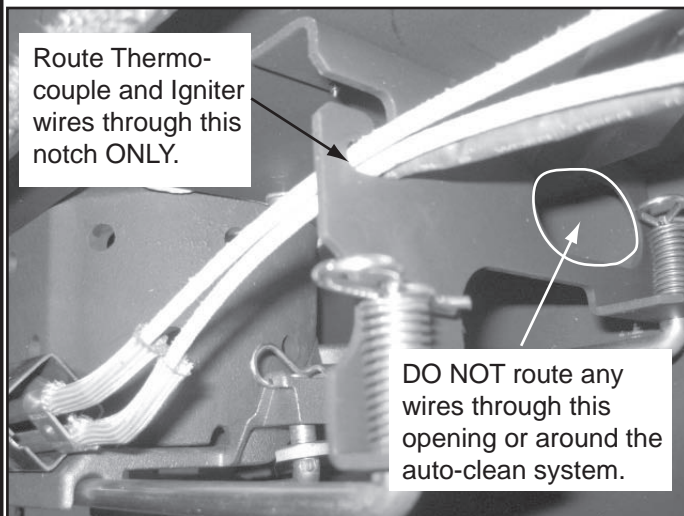

Figure 6
8. The igniter wires need to be routed through a notch in the firepot riser assembly. **Figure 6.**